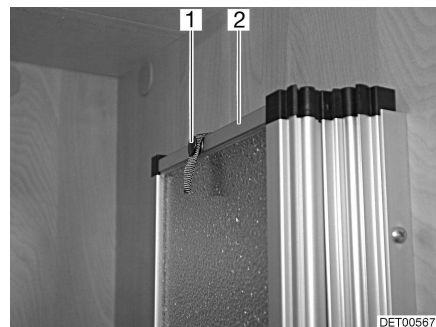

Fig. 109 Securing attachment, shower partition
- Loosen the retaining strap (Fig. 109,1) of the shower partition (Fig. 109,2) and pull out the shower partition.
- Fold up the shower partition (Fig. 109,2) and fasten with the retaining strap (Fig. 109,1).